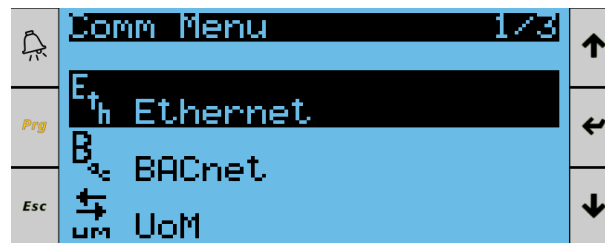

Figure 81. Settings Menu, Communications Sub-Menu
21. Within the Communications Menu shown in **Figure 81** below, select Ethernet.